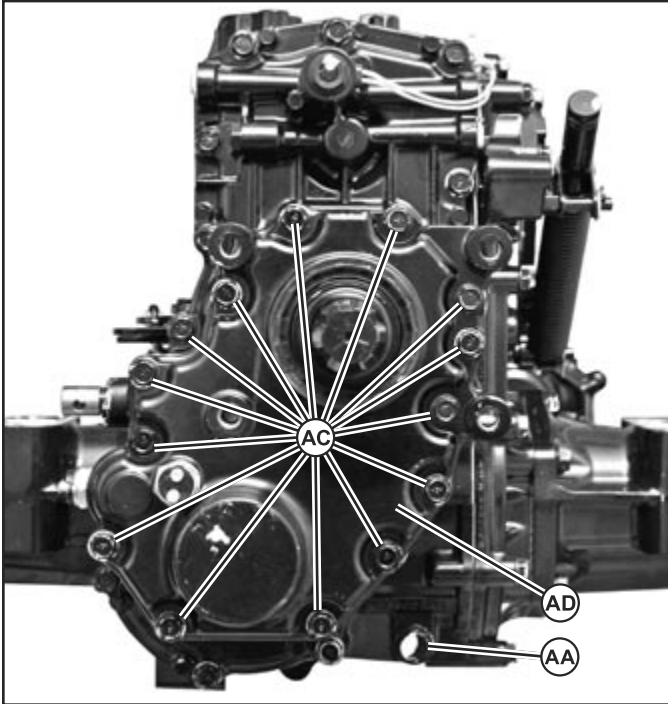

Fig. 25, Rear PTO Gear Case Cover
1. Remove plug (AA) to drain oil from transaxle. (Fig. 25)
2. Remove (14) cap screws (AC) and PTO gear case cover assembly (AD). (Fig. 25)